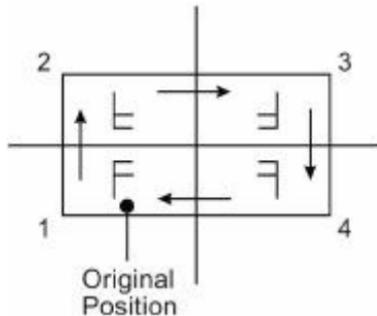

Fig. 15
- (1) To turn the tool on, hold the handheld display unit with LCD screen facing you.
- (2) Press **Power** button to turn on the screen. The power indicator light will illuminate green. The real-time image will appear on the LCD screen.
- (3) Press **LED Lighting Adjusting** buttons to adjust LED light intensity as needed. Press **DOWN** arrow button to adjust dim LED lighting while press **UP** arrow button to adjust bright LED lighting.
- (4) Press **Reverse** button to control the direction of the real-time image. The real-time image will do a horizontal reverse or vertical reverse. (See Fig. 15)